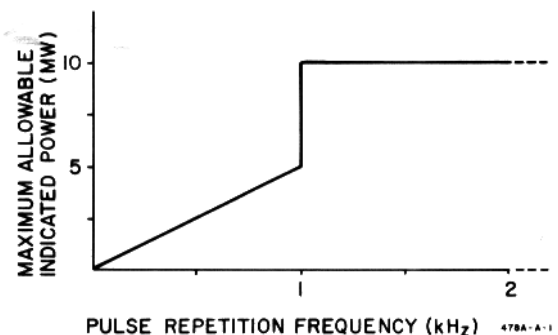

Figure 1. Maximum Power Meter Reading vs PRF for Pulses Shorter than 250 μ s
14. PULSE ENERGY AND PEAK POWER. In measuring pulse power, there is a limit on the energy per pulse which may be applied to the mount. For a pulse repetition frequency (PRF) less than 1 kHz, energy per pulse can be up to 5 watt- μ s; for a PRF 1 kHz and above, up to 10 watt- μ s (for lack of space, only the lower limit is shown on the mount name plate). However, this energy limit applies only to pulses shorter than 250 μ s. In Figure 1, the pulse energy limit is